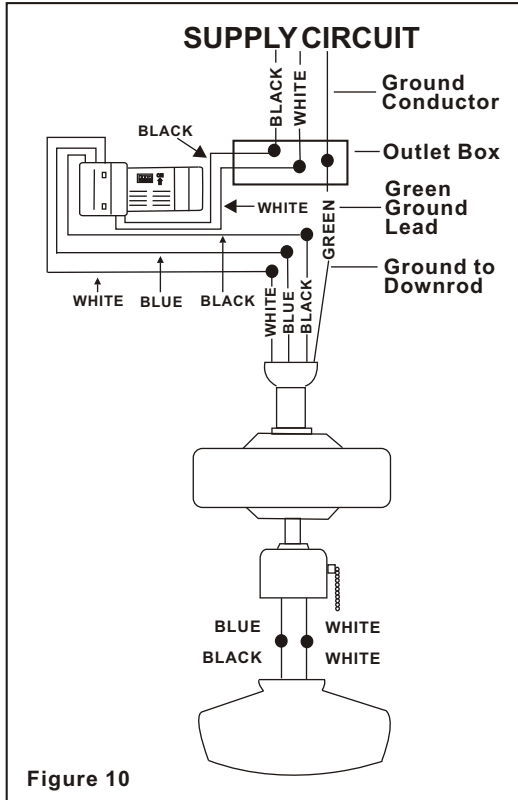

Figure 10
Step 2. (Figure 10) Motor to Receiver Electrical Connections: Connect the black wire from the fan to black wire marked "TO MOTOR L". Connect the white wire from the fan to the white wire marked "TO MOTOR N" from the receiver. Connect the blue wire from the fan to the blue wire marked "For Light" from the receiver. Secure the wire connections with the plastic wire nuts provided.
Step 3. (Figure 10) Receiver to House Supply Wires Electrical Connections: Connect the black (hot) wire from the ceiling to the black wire marked "AC in L" from the receiver. Connect the white(neutral) wire from the ceiling to the white wire marked "AC in N" from the Receiver. Secure the wire connections with the plastic wire nuts provided.
Step 4. (Figure 10) If your outlet box has a ground wire (green or bare copper) connect it